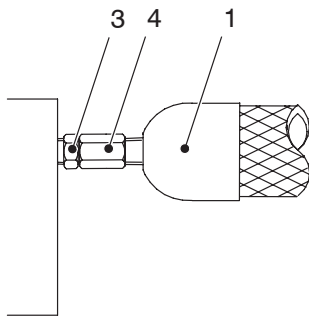

Figure 3-8
3. Connect hose to filling valve connection (1, Fig. 3-9) (Also refer to Fig. 3-8).